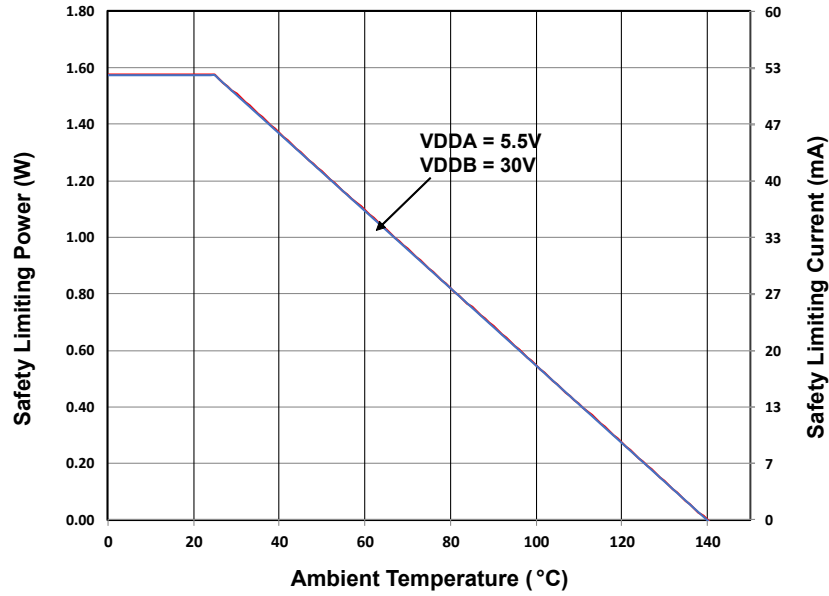

Figure 4.6. WB SOIC-16 Thermal Derating Curve
2. See Figure 4.6 for Thermal Derating Curve.
- Updated Thermal Derating Curve, Figure 4.6.